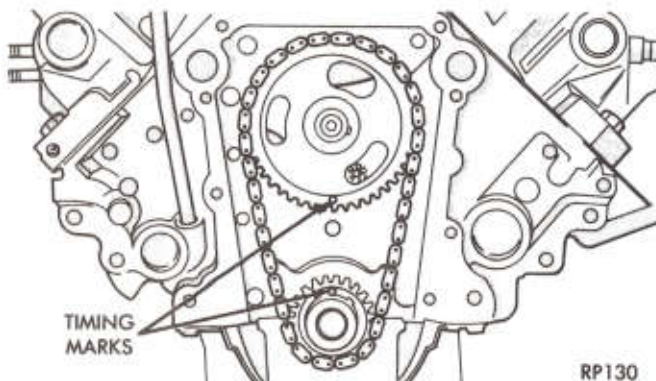

Fig. 35—Alignment of Timing Marks
(5) Place both camshaft sprocket and crankshaft sprocket on the bench with timing marks on exact imaginary center line through both camshaft and crankshaft bores.
(6) Place timing chain around both sprockets.
(7) Turn crankshaft and camshaft to line up with keyway location in crankshaft sprocket and in camshaft sprocket.
(8) Lift sprockets and chain (keep sprockets tight against the chain in position as described).
(9) Slide both sprockets evenly over their respective shafts and use a straight edge to check alignment of timing marks (Fig. 35).
(10) Install the fuel pump eccentric, cup washer, and camshaft bolt. Tighten bolt to 35 ft. lb. (47 N·m).
(11) Measure camshaft end play. Refer to Specifications for proper clearance. If not within limits install a new thrust plate.
(12) Each tappet reused must be installed in the